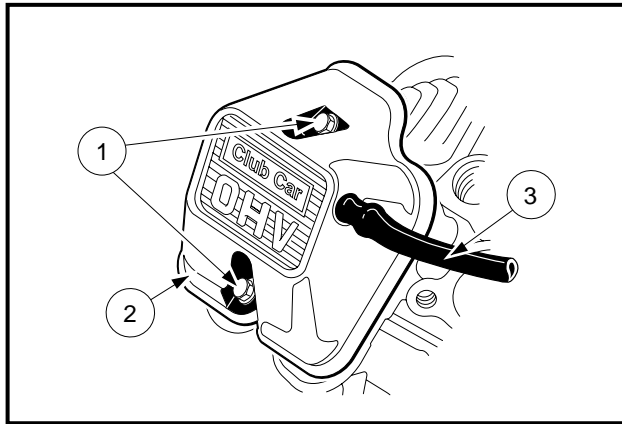

Figure 13-10 Remove Rocker Cover and Breather Tube
1. Remove the two bolts (1) and remove the rocker cover (2) along with the breather tube (3) (**Figure 13-10, Page 13-10**).